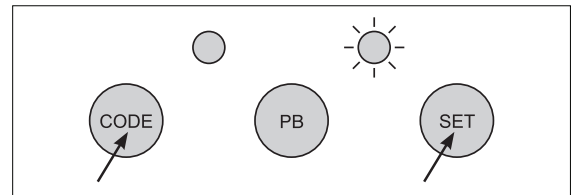

Fig. 13
- 4 Press and hold **CODE** to move the door to the desired **closed** position (the red close LED will illuminate to indicate the close cycle). If you over shoot the desired position press **PB** to drive the door up. Fig. 13.